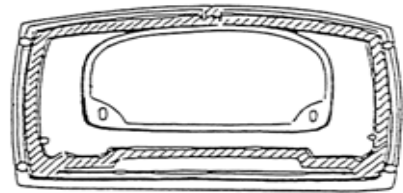

Fig. C-8 Top (bottom view)
STEP 14: Cement channels and mating surfaces on the underside of the stove top as indicated in Figure C-8. Place the top in position on the stove front, ends, and back insuring that a good all around seal is achieved. Use the rubber mallet as necessary. Secure the top to the stove front with 1 each, Phillips flat head machine screw ($\frac{1}{4}$ "-20 x $\frac{3}{4}$ ""). Secure the top to the rear of the stove ends with 2 each, hex head cap screws ($\frac{1}{4}$ "-20 x $\frac{3}{4}$ "") and 4 each, standard flat washers ($\frac{1}{4}$ "") 2 per cap screw.